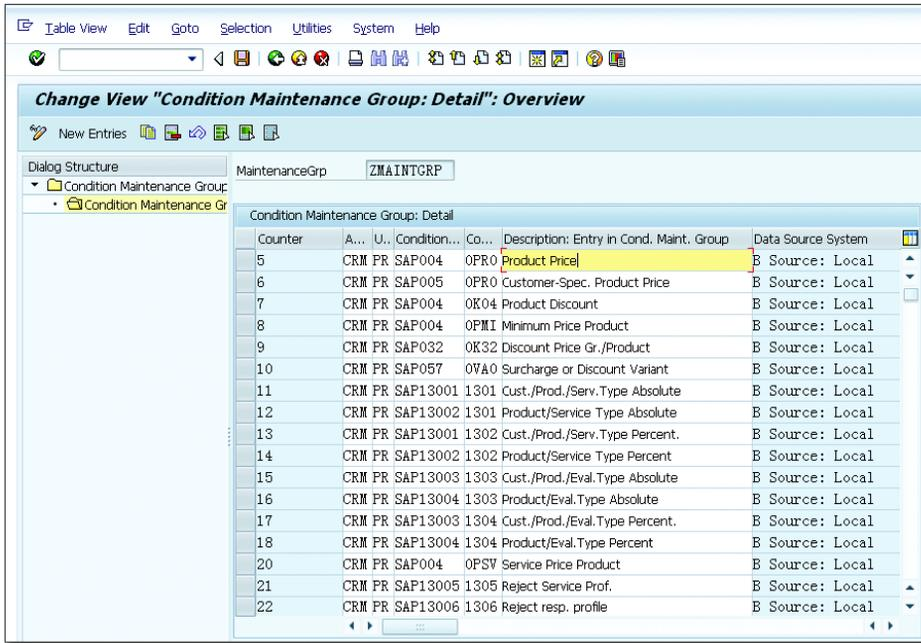

Figure 2.46 Condition Maintenance Group Details
2. Add the condition table and condition type to the condition maintenance group details, as shown in Figure 2.46. These are the condition type and the condition tables that can be viewed as a part of the master data record.